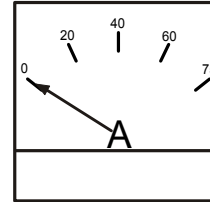

**Figure 21. Ignition Switch (Preheat)**
6. Before starting the generator, turn the key to preheat (Figure 21) until the warning indicator light turns off. Then turn the key to the right to 'Start' (Figure 22). Once the engine starts, release the key.